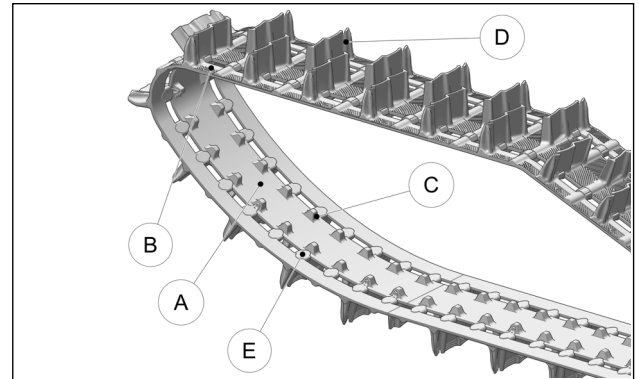

Figure 53
Verify wear on Track by inspecting the internal (A) and external (B) condition of the Track's carcass rolling path, driving lugs (C), the profile (D). Make sure that the Track's internal structure is not visible at cuts or in worn areas. Make sure the steel clips (E) are not abnormally worn. See Figure 53.